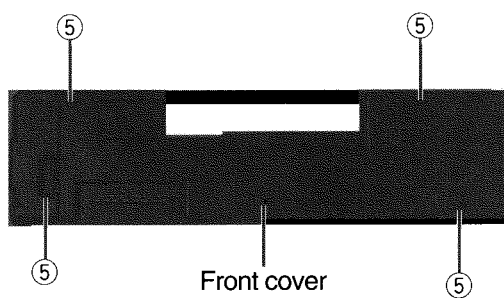

Fig. 9
■ Removing the Operation Switch board (See Fig. 9~13)
3. Remove the four screws ⑤ retaining the front cover.